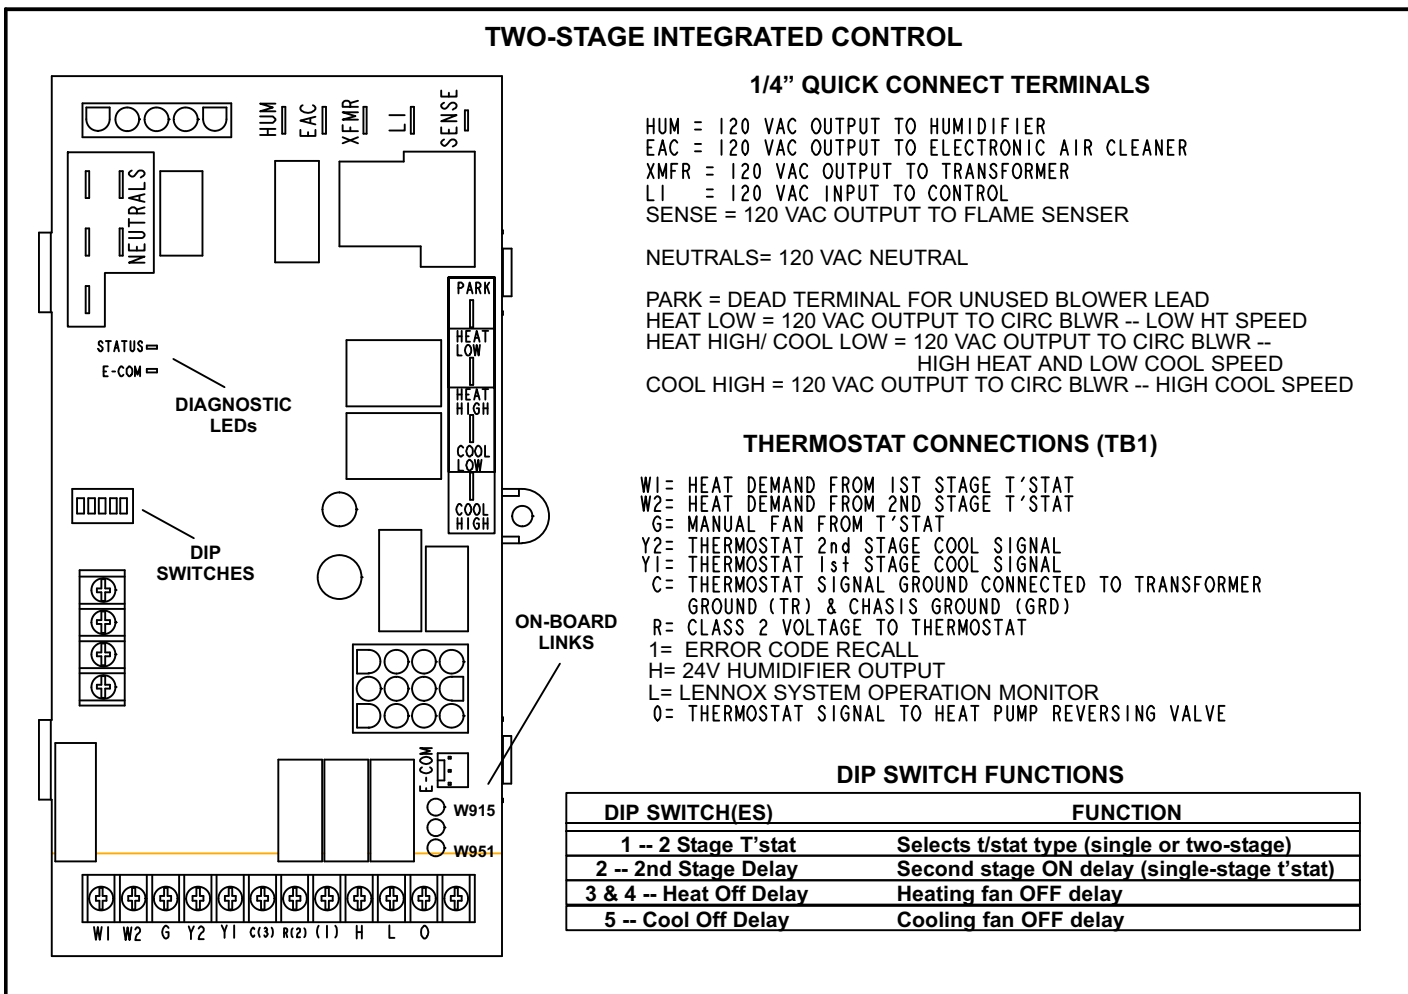

FIGURE 25
- 7 - One line voltage "HUM" 1/4" spade terminal is provided on the furnace integrated control. Any humidifier rated up to one amp can be connected to this terminal with the neutral leg of the circuit being connected to one of the provided neutral terminals. See figure 25 for control configuration. This terminal is energized in the heating mode when the combustion air inducer is operating.
- 8 - One line voltage "EAC" 1/4" spade terminal is provided on the furnace integrated control. Any electronic air cleaner rated up to one amp can be connected to this terminal with the neutral leg of the circuit being connected to one of the provided neutral terminals. See figure 25 for control configuration. This terminal is energized when the indoor blower is operating.
- 9 - One 24V "H" terminal is provided on the furnace integrated control terminal block. Any humidifier rated up to 0.5 amp can be connected to this terminal with the ground leg of the circuit being connected to either ground or the "C" terminal. See figure 25 for control configuration.